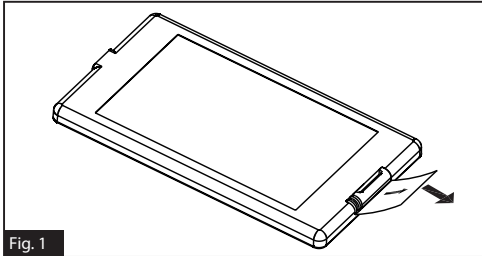

Fig. 1
1. Before using the remote control for the first time, pull the insulating sheet out of the remote control in the direction indicated by the arrow. (Fig.1)